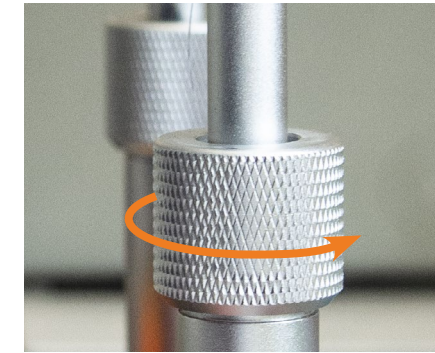

Figure 13
1. Rotate the knobs on the sides of the thread rack support counterclockwise to loosen them. **See Figure 13.**
**Note:** The 2-head model has three (3) columns and the 3-head model has four (4) columns.